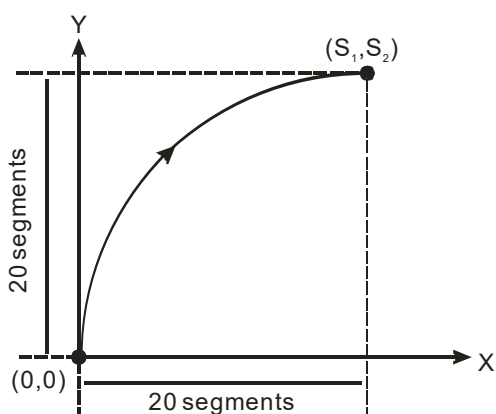

Figure 1
4. The low word of **S** (settings of direction and resolution): K0 refers to clockwise 20-segment output; K1 refers to counterclockwise 20-segment output; A 90° arc can be drawn (see figure 1 and 2).